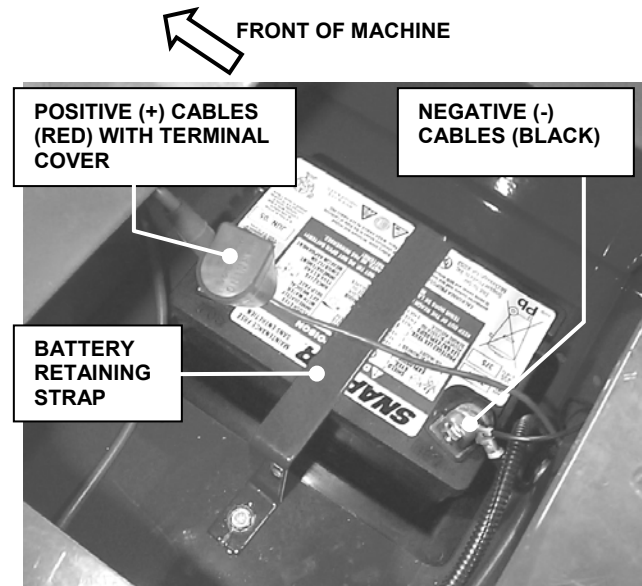

FIGURE 4.4
2. Observe and note cable positions on battery. See Figure 4.4.
4. Remove battery retaining strap hardware and carefully lift battery out of battery tray. See Figure 4.4.
Cables must be connected to battery terminals in the proper position as shown in Figure 4.4. **DO NOT** attempt to charge battery while installed on the Machine. **DO NOT** use "BOOST" chargers on the battery.
IMPORTANT! The orientation of the battery and the routing of the battery cables is very important. Install battery carefully as shown in Figure 4.4. Always install positive (red) cables using the terminal cover. DO NOT operate machine until the battery retaining rod has been installed and the battery retained securely.
1. Carefully place battery into battery tray, and replace battery retaining strap (see Figure 4.4). Tighten strap hardware securely.
2. Connect positive (+) cables (red) first, from wiring harness to the positive terminal (+) on battery using bolt and nut. Install terminal cover. See Figure 4.4
3. Connect negative (-) cables (black) last, to negative terminal (-) on battery using bolt and nut. Apply a small amount of grease over terminals to prevent corrosion. See Figure 4.4.